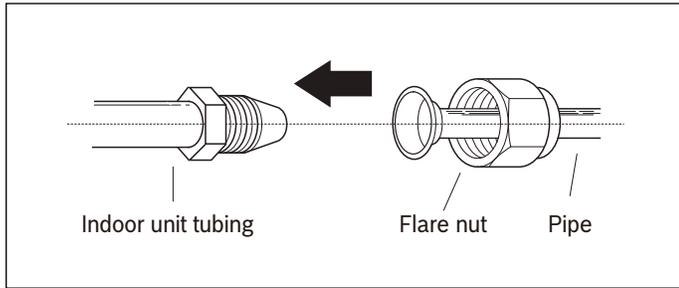

Figure 33
1. Align the center of the two pipes that you will connect. See Fig. 33.